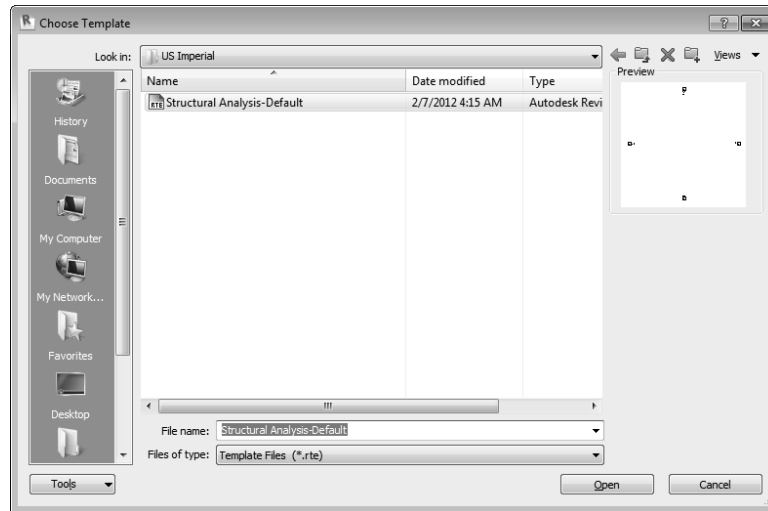

Figure 2-28 The **Choose Template** dialog box
- b. Use **Structural Analysis-Default.rte** as the template file for the project, refer to Figure 2-28.
2. In the **Choose Template** dialog box, the template file **Structural Analysis-Default.rte** is selected as the default template file, as shown in Figure 2-28. Choose the **Open** button to assign the selected template file to the **New Project** dialog box.